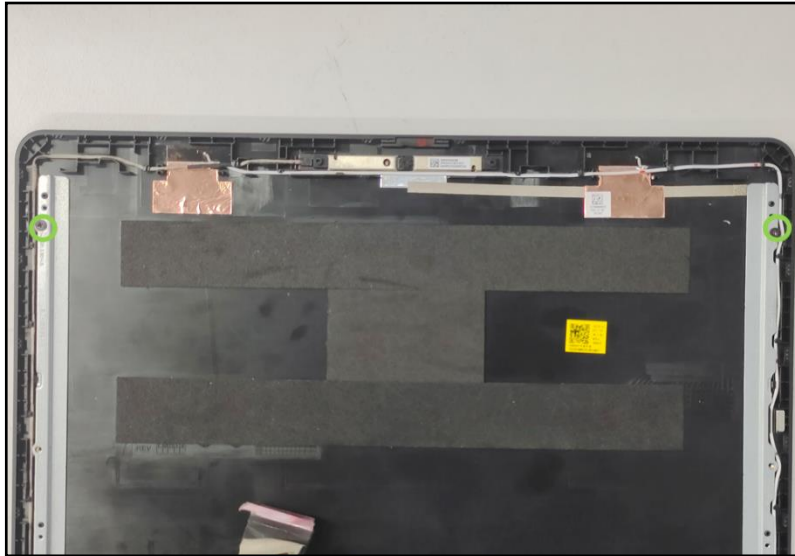

Figure 3-75. Replacing the LCD Hinges
3. Insert two(2) screws to secure the hinge BKT in place as shown in Figure 3-75.